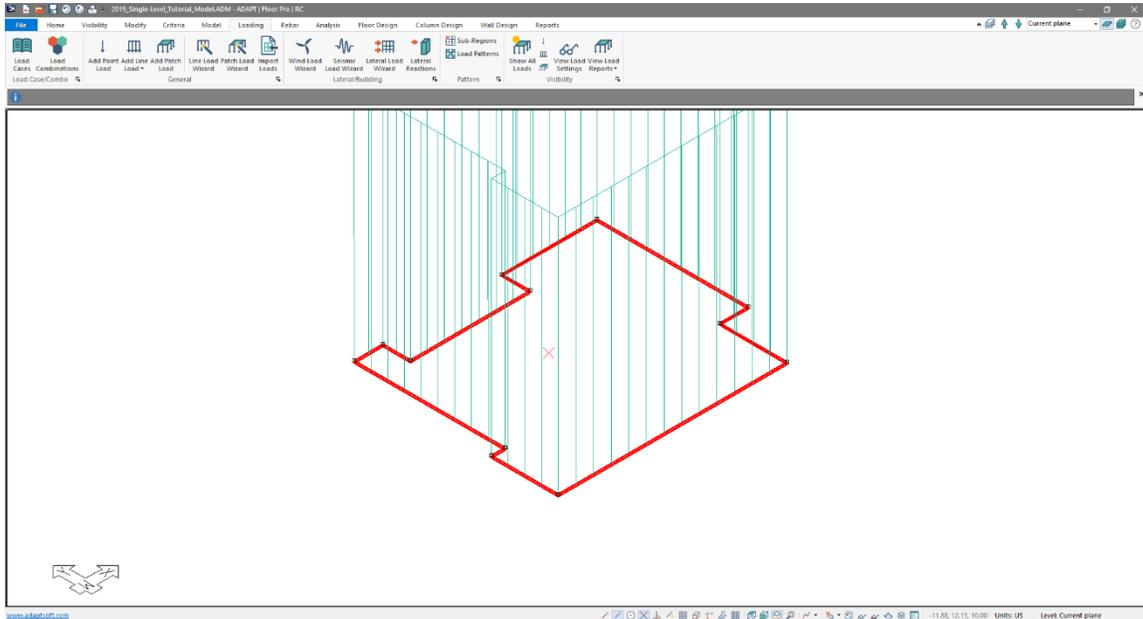

Figure 4-12
- The user will now see green lines representing the projection of the load as shown in **FIGURE 4-12**. We have applied a 40psf area load to the slab under the *Live Load* case.